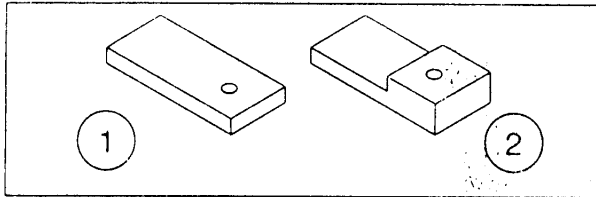

Fig. 2: Mounting Pads. (1) Without Step; (2) With Step...
- Over the years, there have been minor changes in the way the R.A. and Dec. motors are mounted. There are two basic types: the first has a "step" on the mount pads (2, Fig. 2) that matches a "recess" on the motor hinge. The other style is without such a "step" (1, Fig. 2); it mounts flush.